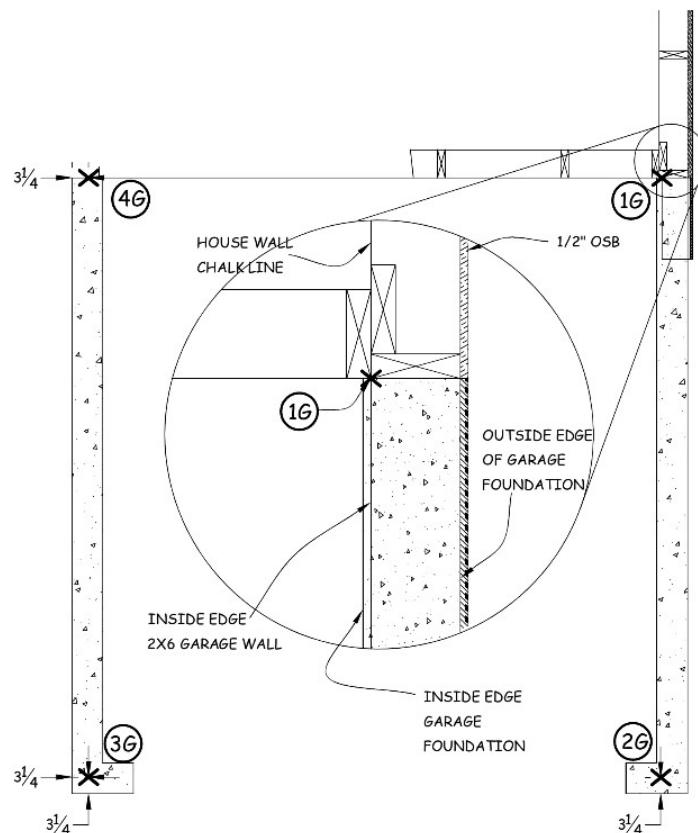

Figure 3-7. Continuing Wall Layout to Attached Garage.
11. For homes with an attached garage, continue laying out stud locations per Figure 3-7.